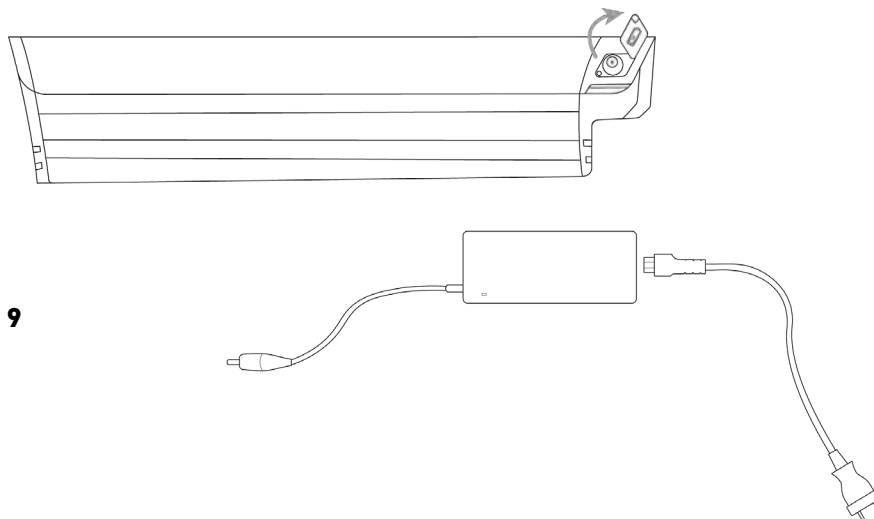

FIG. 9
3. Lift the rubber stopper at the top right of the battery (Figure 9)